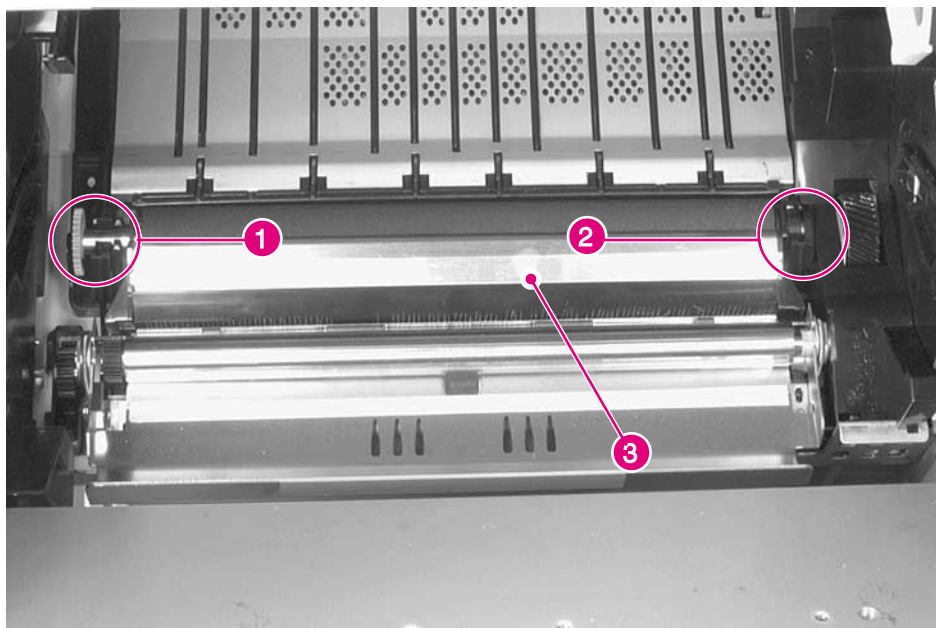

Figure 6-62 Transfer Roller Assembly
- 2 Grasp the gear (figure 6-62, callout 1) on the left end, and carefully lift upward just enough to clear the retainer clip.
- 3 Slide the Transfer Roller Assembly to the left to release the shaft on the right end (figure 6-62, callout 2).
- 2** Hold the Transfer Roller wiper up (figure 6-62, callout 3) and slide the assembly to the right until the gear on the left end is in position.
- 4** Press the Transfer Roller wiper down (figure 6-62, callout 3) until the retaining clips snap into place.